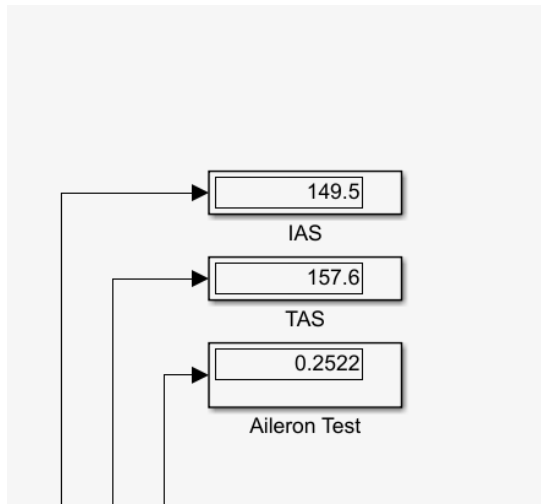
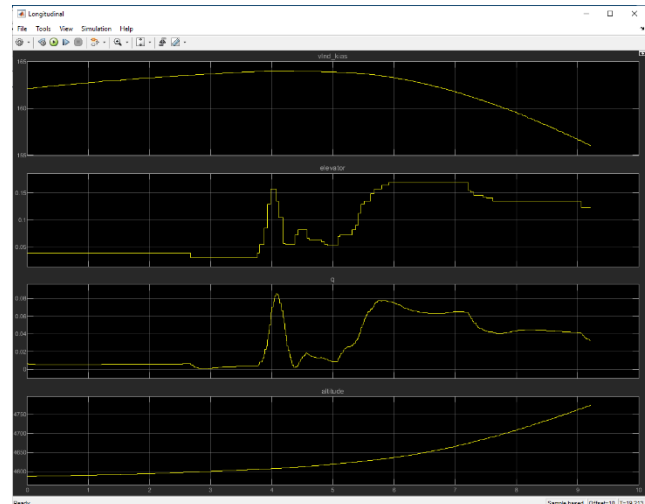

Figure 9: Value output blocks
Figure 10: Scope output
Step 7: Before letting the pilot now that he can perform the necessary control inputs, **check** that the data is being received either by looking at the value displays of speeds and aileron (figure 9) or by viewing the signals displayed on the scope (figure 10).